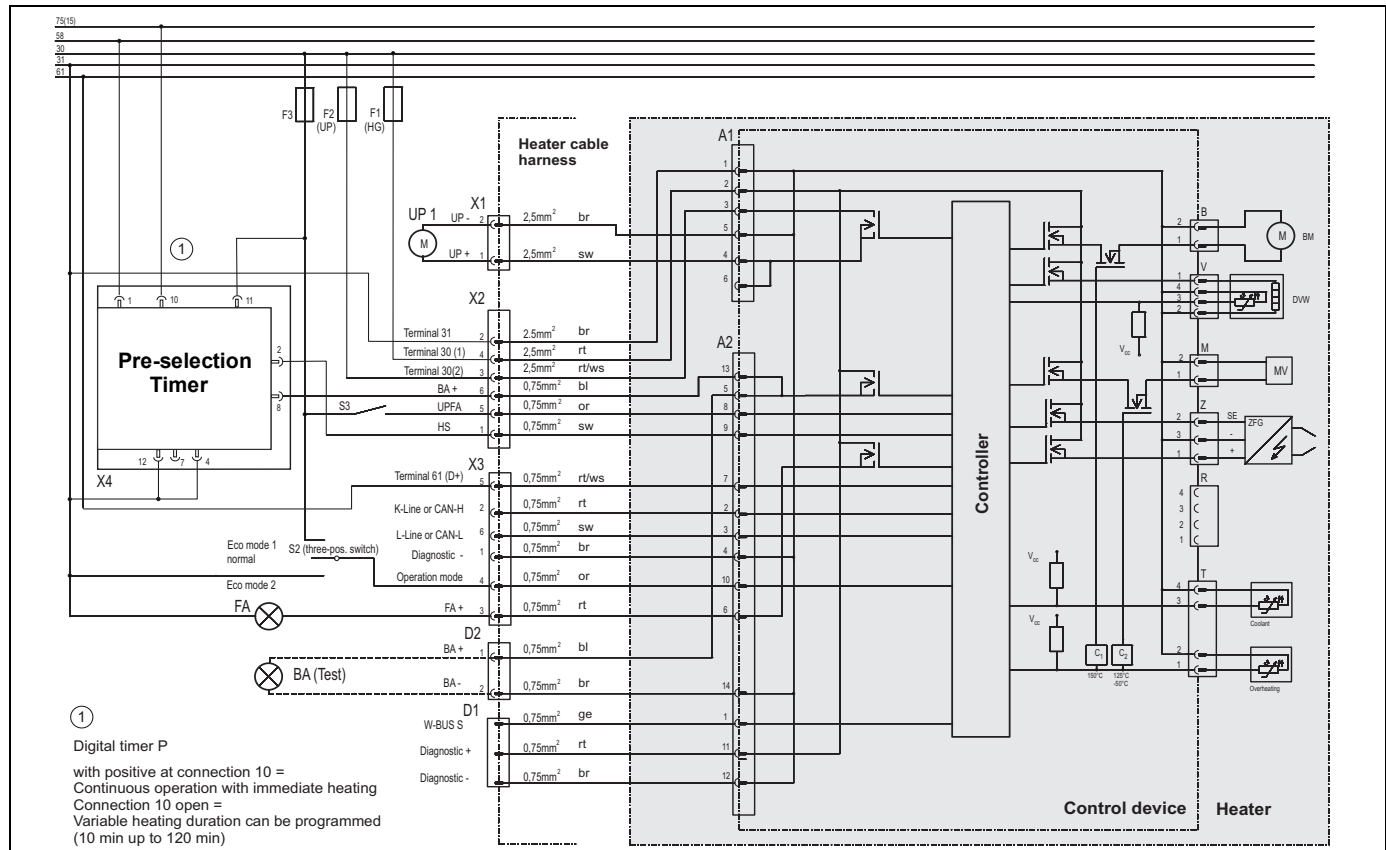

Fig. 7: System wiring diagram for the Diesel burner head of the Thermo H with pre-selection timer, legend see page 58.
- Pre-selection timer, see system wiring diagram Figure 7